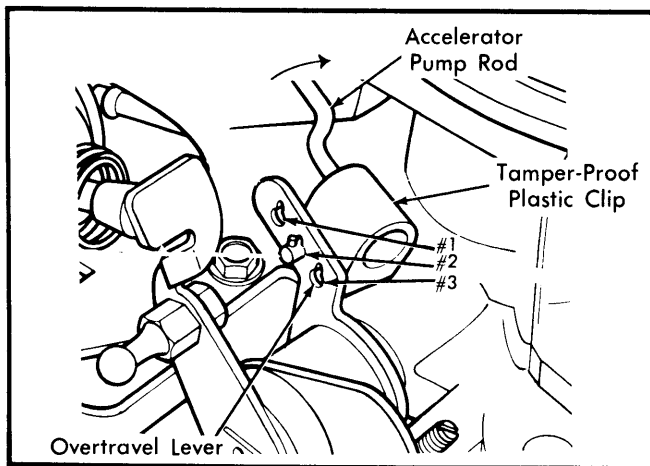

Fig. 3 Accelerator Pump Stroke Adjustment
4) Position clip in specified hole of overtravel lever and insert rod assembly through hole in clip and overtravel lever. Snap end of clip over rod assembly. See Fig. 3.